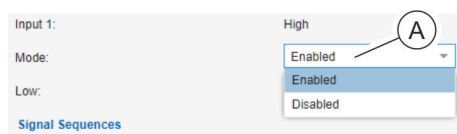

Fig. 117: Activating/deactivating an input or output
2. ➤ In the selection field (Fig. 117/Ⓐ), set the value to “Enabled” (to activate) or “Disabled” (to deactivate).